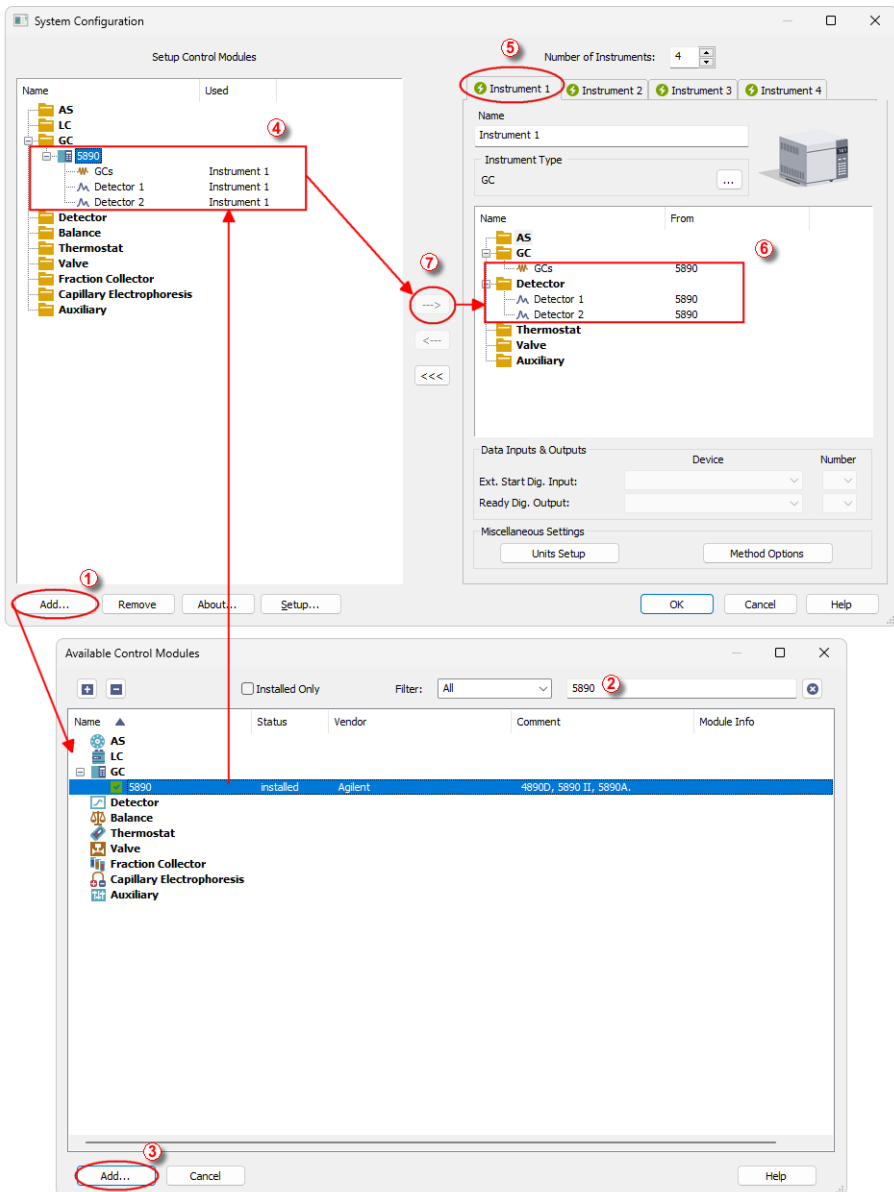

Fig. 4: System Configuration
- Press the *Add* button ① (see **Fig. 4** on pg. 6.) to invoke the *Available Control Modules* dialog.
- You can specify the searching filter ② to simplify the finding of the driver.
- Select the **5890** and press the *Add* ③ button.